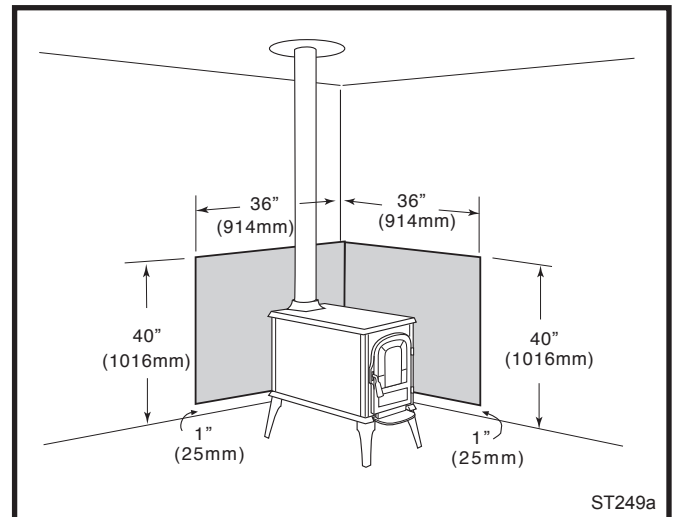

Fig. 17 Parallel installation, vertical chimney connector, two wall shields.
**Parallel installation, vertical chimney connector, two wall shields.** Fig. 17: Reduced clearances for both rear and side walls. Wall shields may meet at corner if desired. Shielding for connector is centered behind connector.